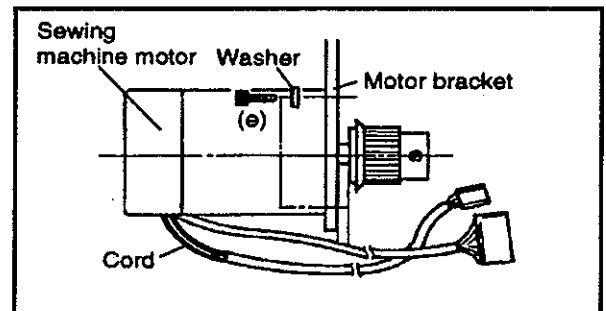

FIG.3
- (1) Secure the sewing machine motor to the bracket using the four retaining screws (e) (Fig.3).